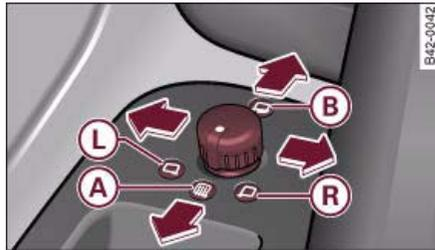

Fig. 59 Detail of the armrest: Adjuster knob
- Turn the adjuster knob to position **L** (left exterior mirror) or position **R** (right exterior mirror) ⇒ fig. 59.